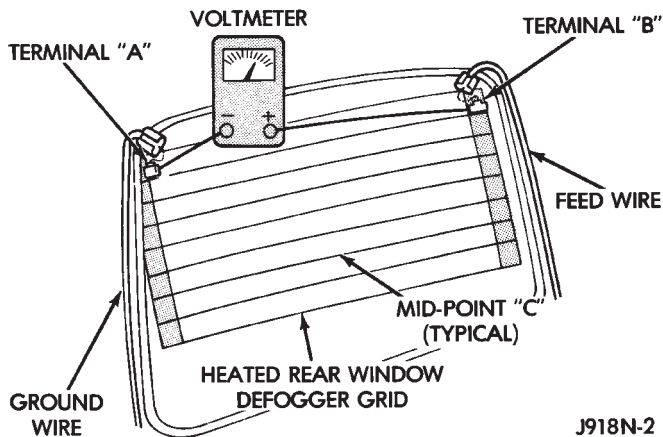

Fig. 1 Rear Glass Heating Grid Test
3. Using a 12-volt DC voltmeter, contact the rear glass heating grid terminal A (passenger's side) with the negative lead, and terminal B (driver's side) with the positive lead (Fig. 1). The voltmeter should read battery voltage.